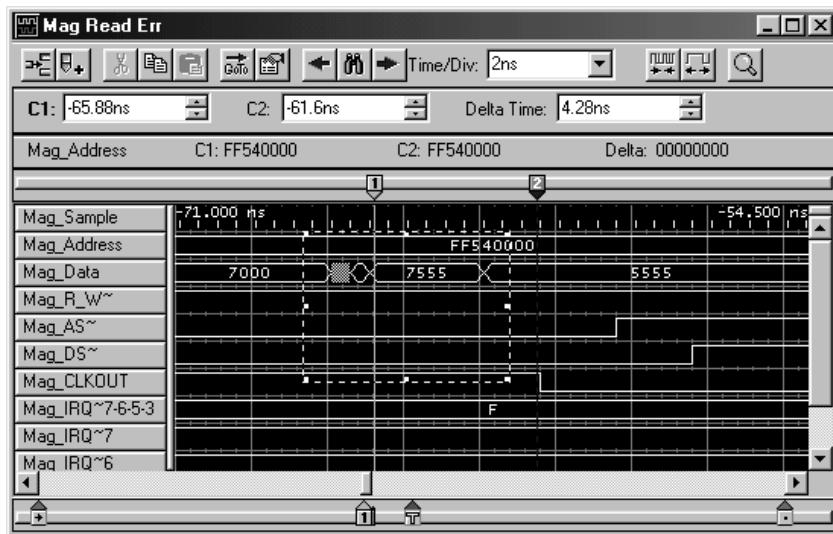

Figure 3-16: Waveform window with dashed zoom box
5. To zoom in on the data, move the mouse pointer to just before the data changes on the Mag\_Data bus. Press and hold the left mouse button and drag the mouse to create a dashed box. Your display should look like Figure 3-16. Right-click the mouse and select Zoom from the menu.